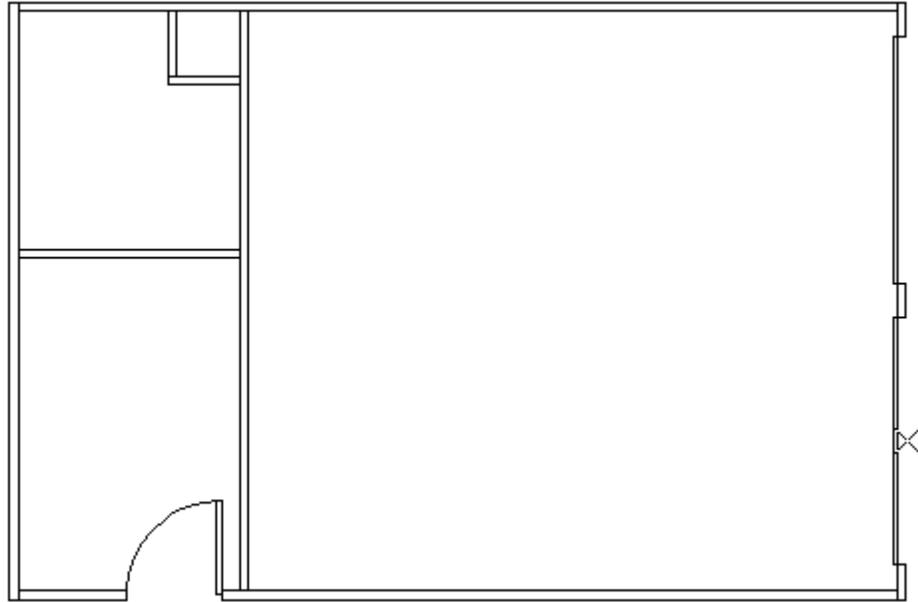

Figure 4-18
Pick the lower right corner of the wall layout using the F11 key / right mouse button. Two (2) Garage Doors will be inserted, as shown in Figure 4-18 on the next page.
You have completed insertion of exterior doors and saved the database, and should have a floor plan as shown in Figure 4-18 above.